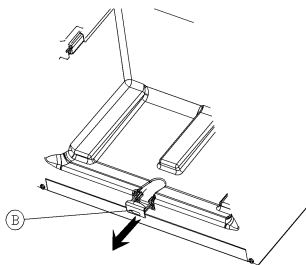

FIGURE -2-
2- Pull out the **drain plug (B)** placed under the freezer compartment (figure-2).